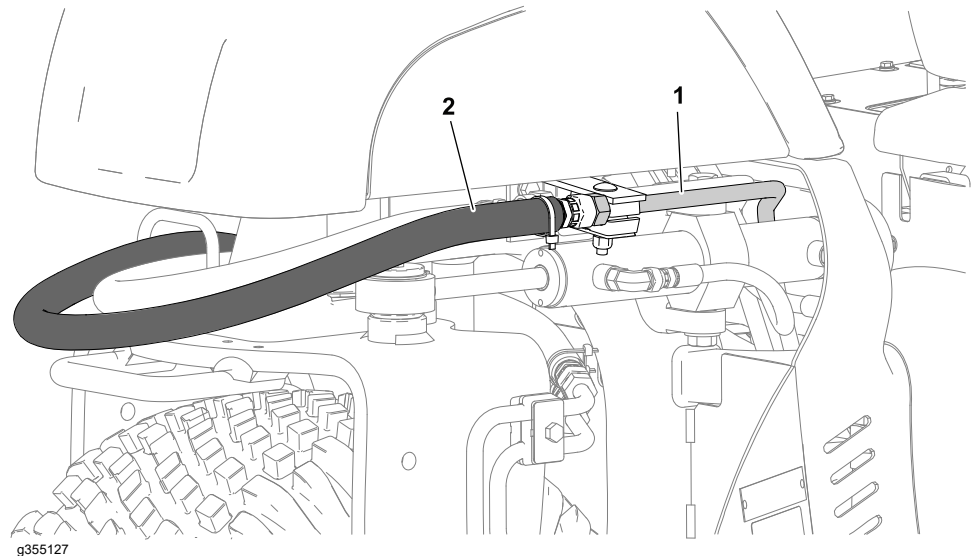

Figure 34
- A. Clean the hydraulic tube and hose above the front wheel; refer to Figure 34.